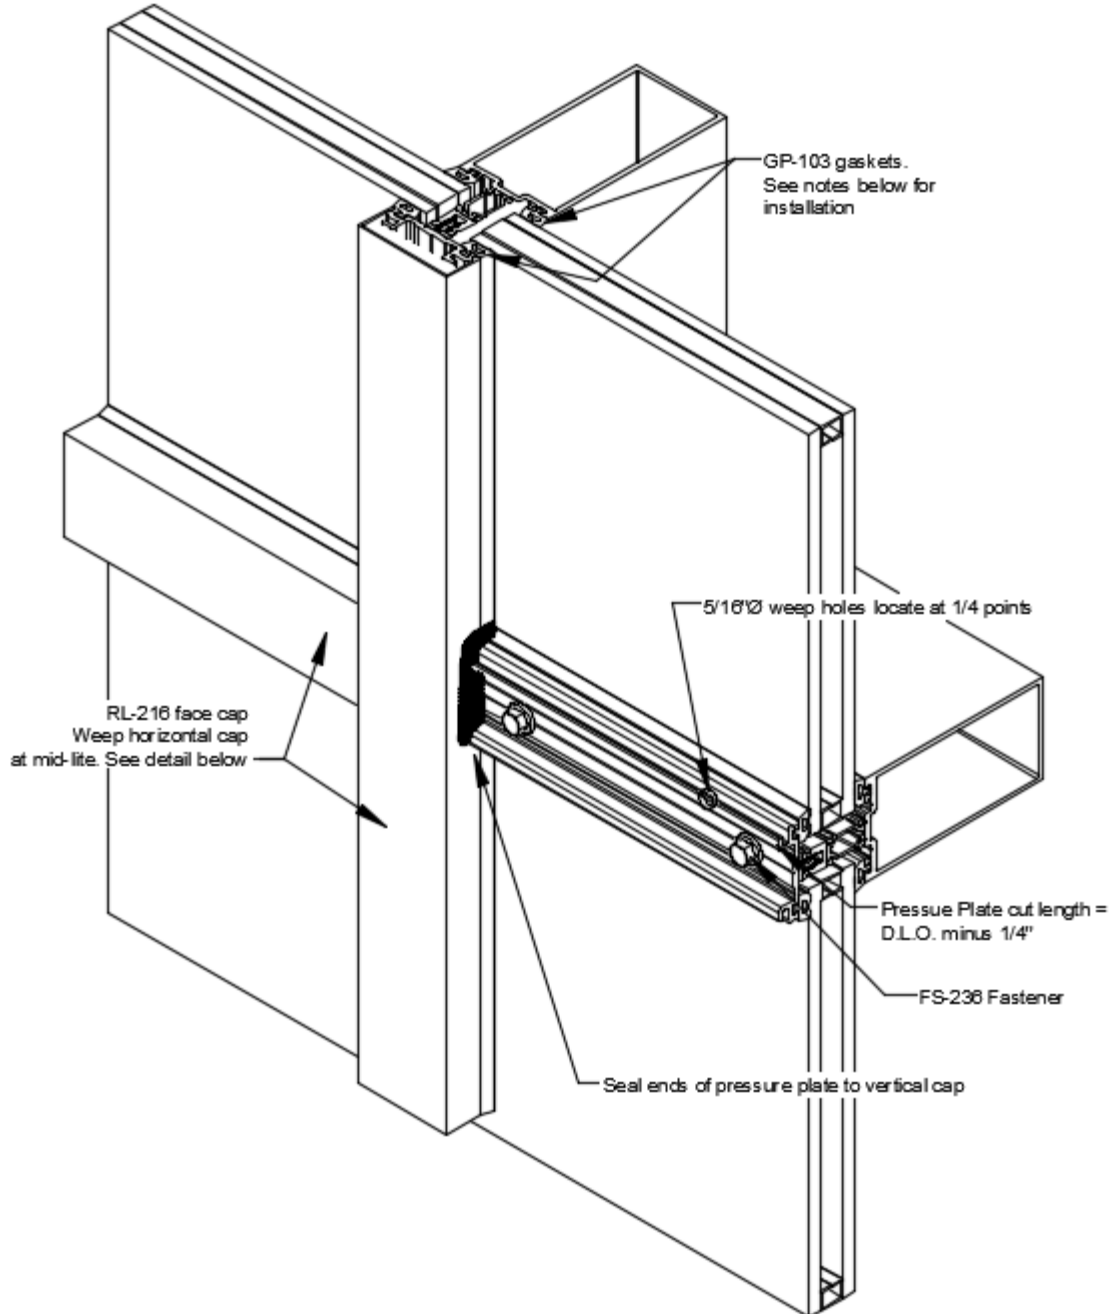

Figure 68: Horizontal Glazing
- 23.12 Seal horizontal Pressure Plates against the vertical Face Covers. Tool sealant into the joint. See *Figure 68*.